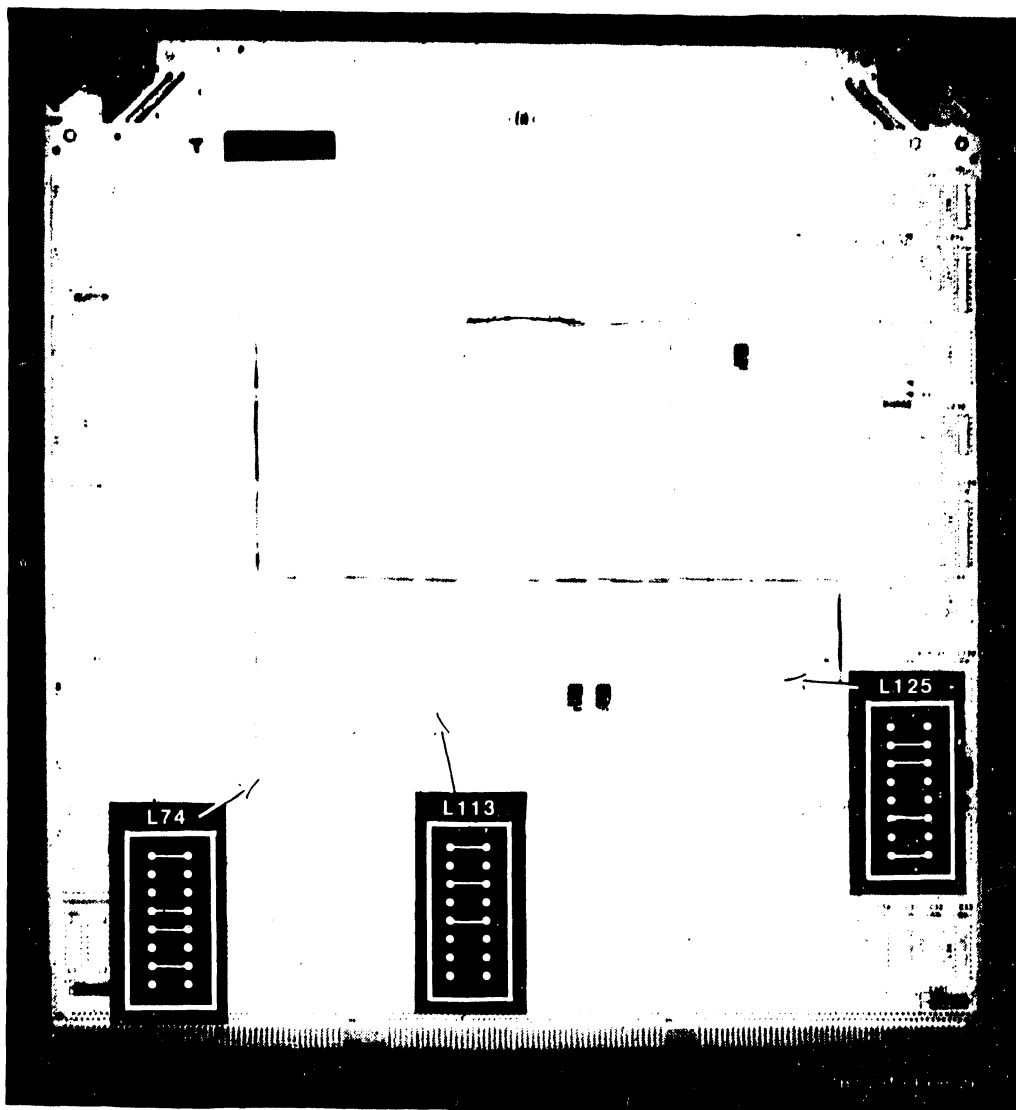

Figure 7-21. 210-9836 System Bus Interface
1. Remove the System Bus Interface(s) (SBI) (figure 7-21) from SBI backplane slot(s) #0 or #1 as described in paragraph 7.2.4.1.
2. After checking the I/O Clock Speed jumpers at L125, SBI Identification jumpers at L74, and SPB (Support Packet Bus) Target ID jumpers at L113 (figure 7-21), install the new SBI.